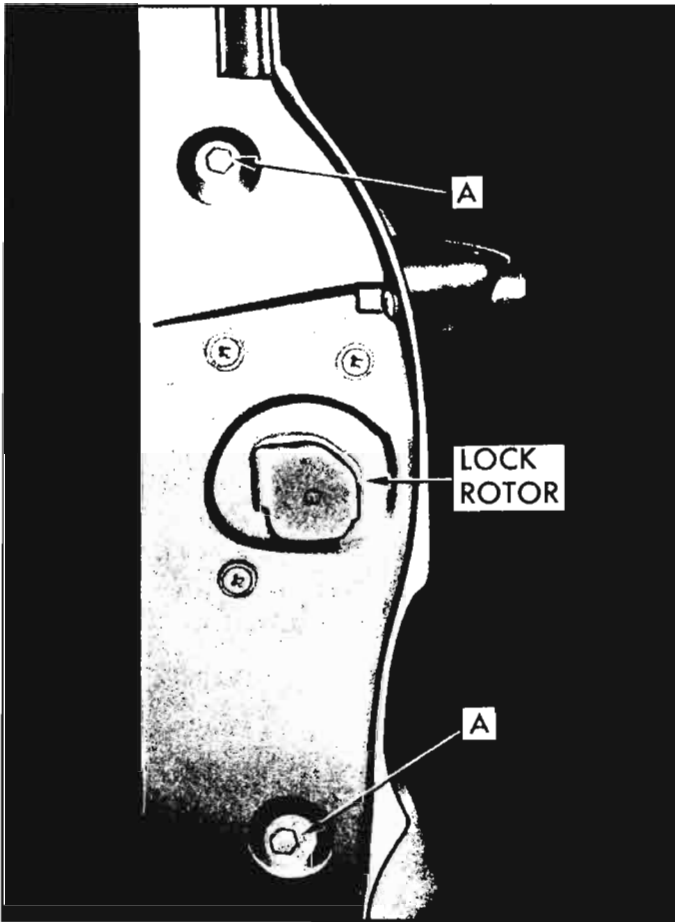

Fig. 10-46a—Window Sash Mounting Screws
1. Lower window in door and remove two sash vertical channel retainer screws ("A", fig. 10-46a).
2. Install ventilator attaching screws loosely. Install two sash channel screws ("A", fig. 10-46a).
4. Remove two vertical channel retaining screws (fig. 10-46a).
7. Install two retainer screws in vertical channel (fig. 10-46a).
2. Remove two retaining screws (fig. 10-46a) and pull the channel straight up to remove it from the door.
6. Install channel retaining screws to channel (fig. 10-46a).